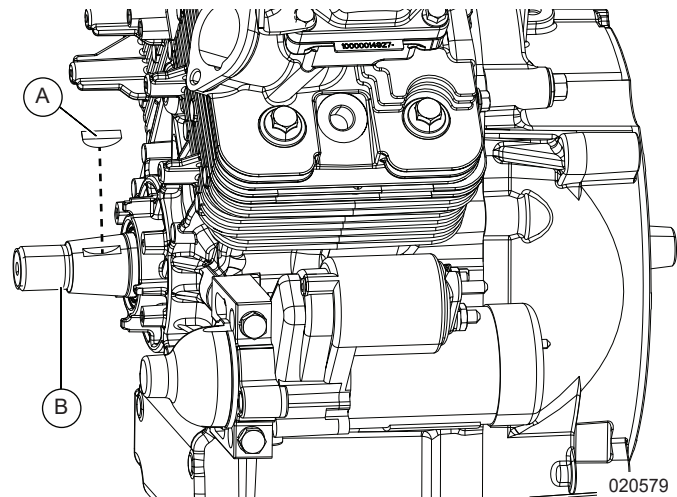

Figure 7-6. Install Woodruff Key
- See Figure 7-6. Install woodruff key (A) into slot in crankshaft (B).